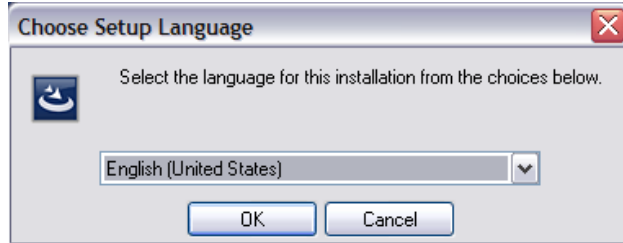

Figure 22-40 ESX client installation: Select language
4. Using Add/Remove Programs, install the VMware vSphere client. Figure 22-40 is the first panel of the Client Setup process. Select your language and click **OK**.